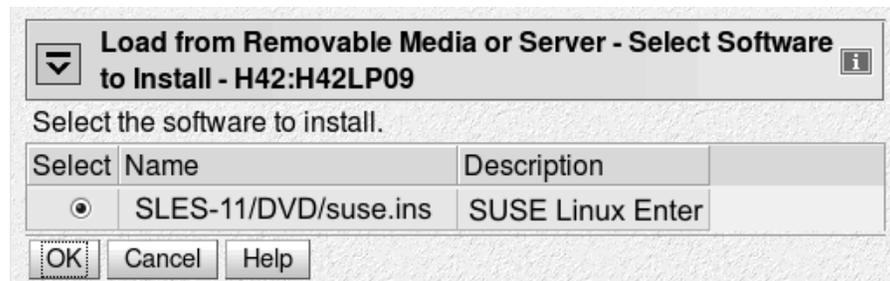

Figure 72. Select Software to Install panel
5. Click **Continue** to display the "Select Software to Install" panel (Figure 72).